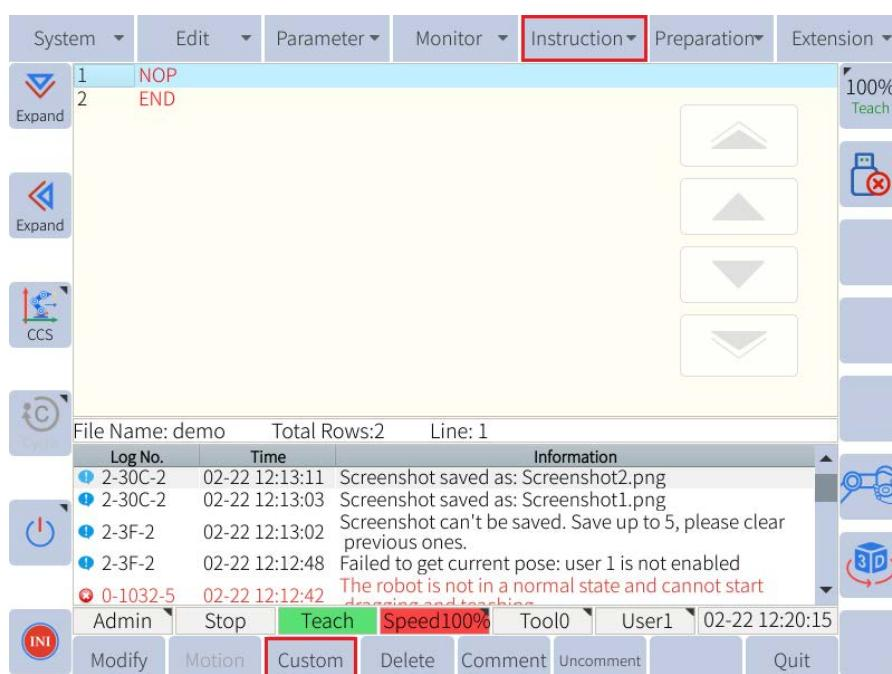

Figure 4-7 : Inserting other instructions
2. Then press “Instruction” under the main menu or “Custom” in the submenu area to select the instruction to be inserted, as shown in **Figure 4-7**.